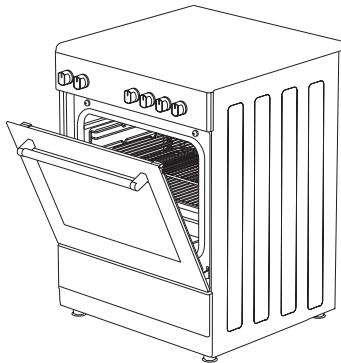

Figure 26
3. Place the safety panel under control panel by opening the oven front cover glass. (figure 26)